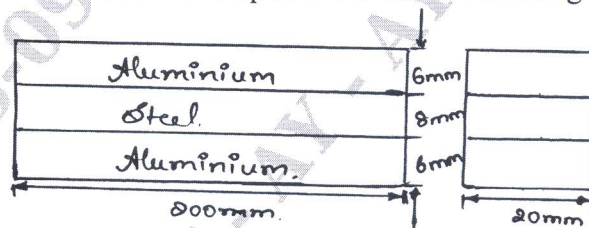

Fig.Q1(b)
b. A flat steel bar 200 mm × 20 mm × 8 mm is placed between two aluminium bars 200 × 20 mm × 6 mm so as to form a composite bar as shown in Fig.Q1(b).